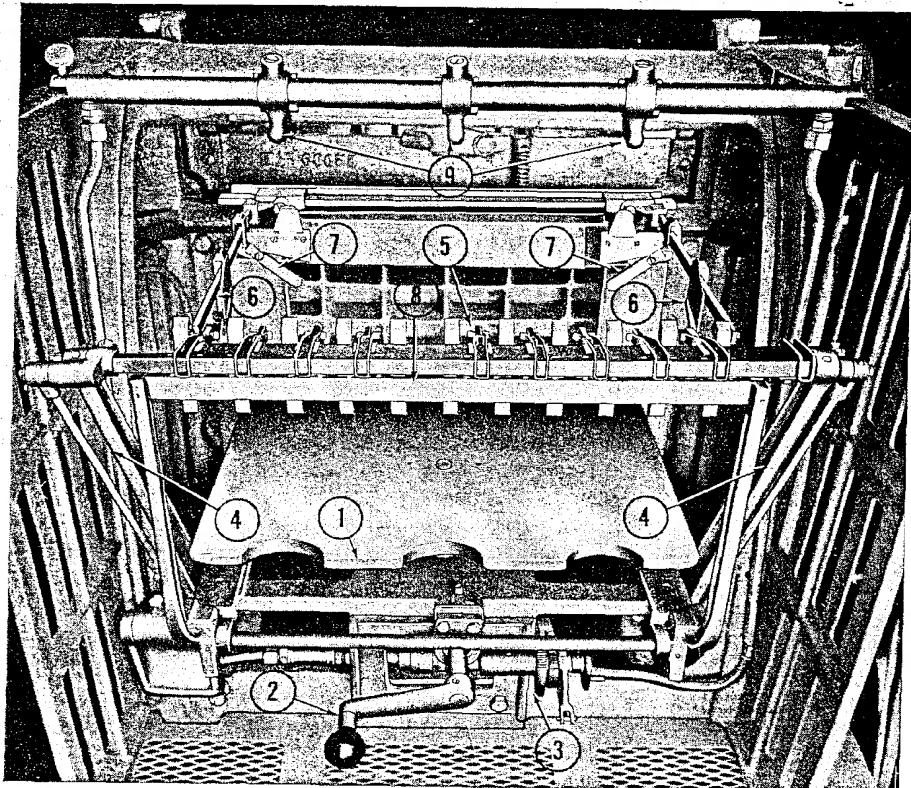

Figure 8—Delivery
**f. DELIVERY.** (See figure 8.) — The delivery mechanism includes the delivery table and its lowering mechanism, the delivery arms to which are attached the delivery grippers, the delivery stop finger bar and stop fingers, the jogger supporting bar with the side and rear joggers, and the delivery air blast tube and nozzles.